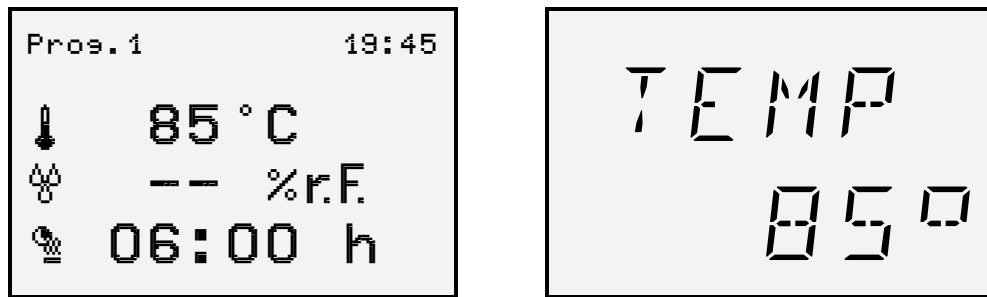

Fig. 4: "Sauna" view (example)
- 17 The bar graph shows the actual and the set point temperature. In figure 4, the upper bar represents the set point temperature (90 °C) to be reached. The lower bars represent the actual temperature (60 °C).
16. Press the ▼ key. The "Sauna" view (Fig. 4) is displayed again.
1. The "Sauna" (Fig. 4), "Sauna with humidity" (Fig. 5) or "Infrared" (Fig. 6) view is displayed.